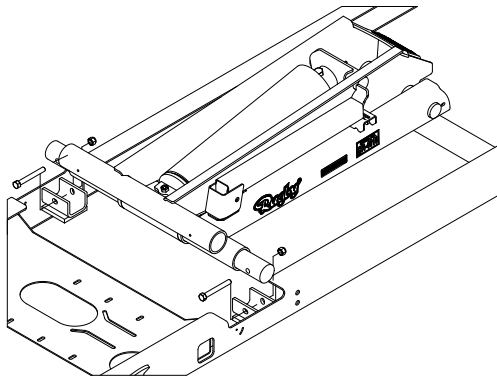

Figure 4: Sub-frame Positioning
2. Position the hoist into the sub-frame by aligning each end of the saddle shaft into the sub-frame brackets. Then secure the saddle shaft to the sub-frame with the provided hardware as shown in Figure 4. Refer to page 11 for torque guidelines.